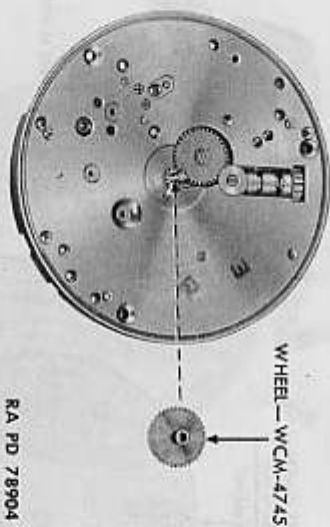

Figure 100 — Waltham Pocket Watch — Hour Wheel Removed
i. Remove Hour Wheel (fig. 100). Remove hour wheel with tweezers.
k. Replace Hour Wheel (fig. 100). Replace hour wheel with tweezers.